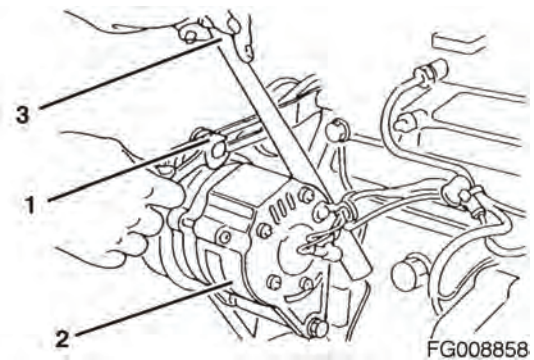

Figure 79
2. If necessary, adjust the V-belt tension. Loosen the adjusting bolt (1, Figure 79) and move the alternator (2, Figure 79) with a pry bar (3, Figure 79) to tighten the V-belt to the desired tension. Then tighten the adjusting bolt.